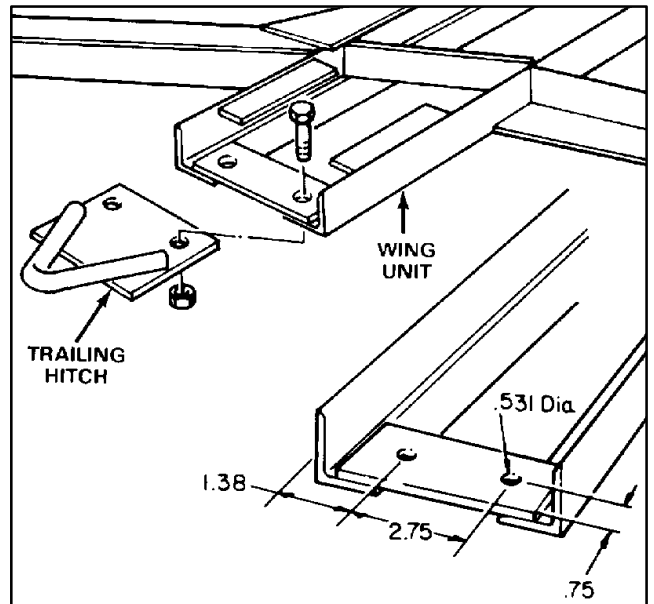

Figure 7
3. Install kit parts to wing unit by securing trailing hitch to underside of frame with (2) capscrews and locknuts (Fig. 7)